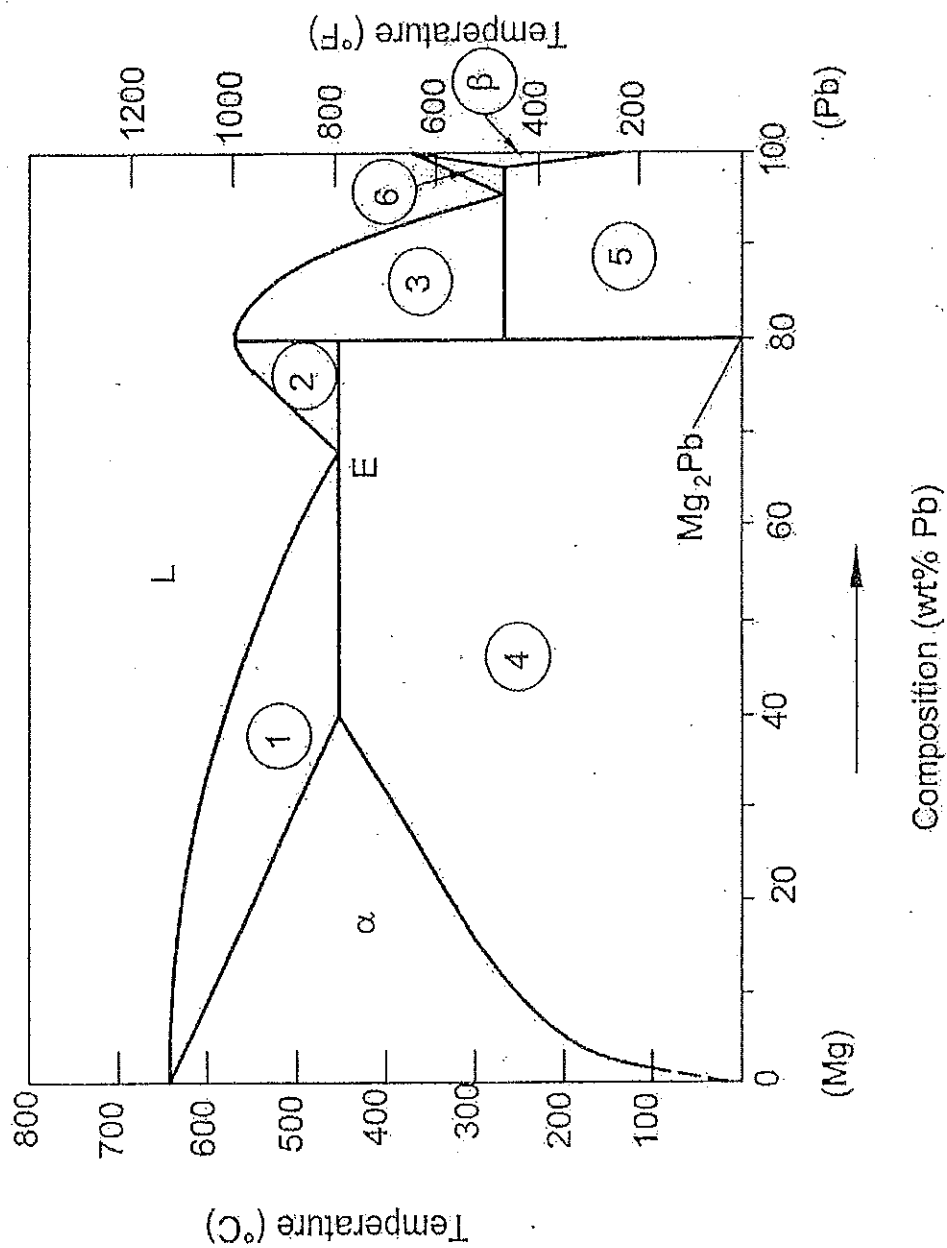

Figure Q3 : The Magnesium-Lead phase diagram
- (b) A phase diagram of Magnesium-Lead is shown in **Figure Q3**. Answer the following questions referring Figure Q3.